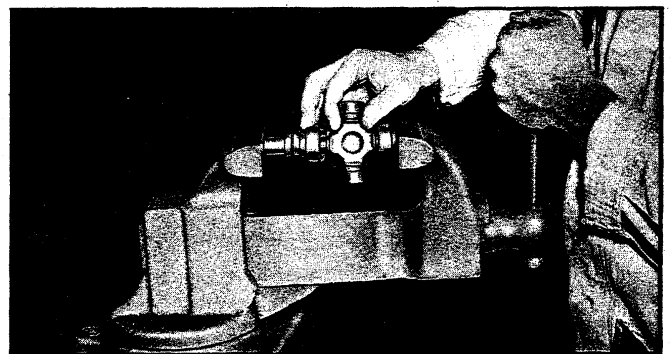

Fig. 105—Installing Bearing Cup and Trunnion
6. Partially install one bearing cup into yoke. Place trunnion in yoke and into bearing cup. Install other bearing cup and press both bearing cups into yoke (fig. 105) being careful to keep trunnion aligned in bearing cups.